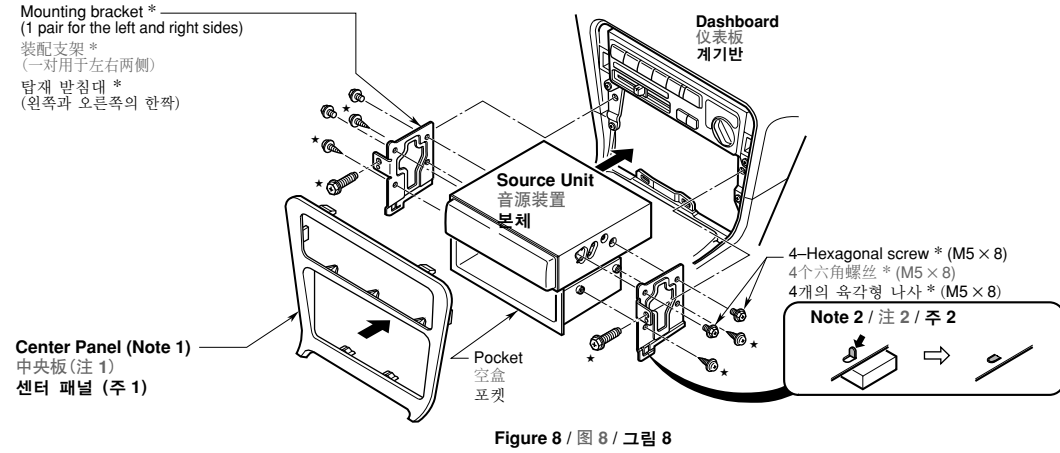

Figure 8 / 图 8 / 그림 8
This unit is designed for fixed installation in the dashboard. If the vehicle is equipped with a factory-installed radio, install the source unit with the parts and screws marked (\*). (Figure 8)
- Secure the mounting brackets to the chassis as shown in Figure 8. When the source unit is installed without the universal mounting bracket, holes exist; modification, such as drilling new holes, of the mounting brackets may be required for other models.
本机用于固定安装在仪表板上。如果汽车装备有出厂时安装好的收音机，请用带星号(\*)的零件和螺丝安装音源装置。（图8）
- 如图8所示，将装配支架固定在底盘上。在不使用通用装配支架的情况下安装主机时，有现成的安装孔。其它车型可能需要改造装配支架，如钻出新孔等。